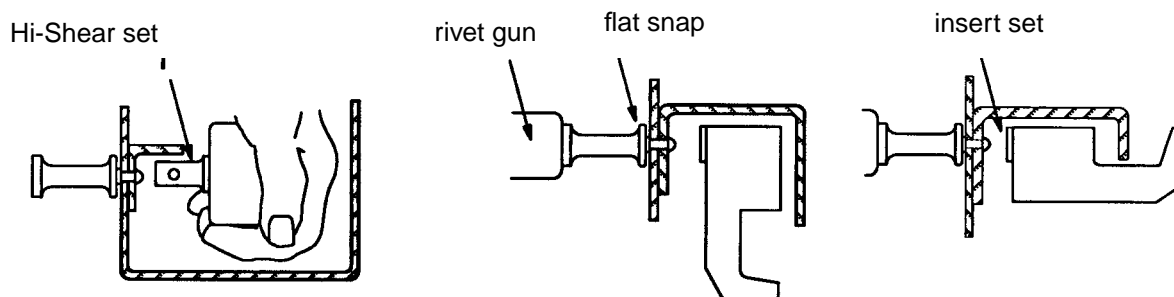

Figure 15 - Reaction Riveting Method for Hi-Shear Rivets
5.6.4 Swage collars onto Hi-Shear rivets using the reaction riveting method as follows (see Figure 15)